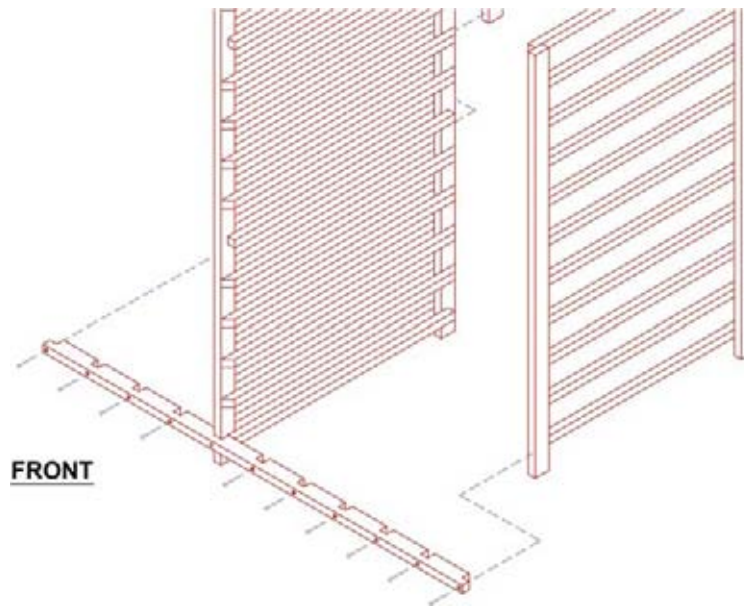

Figure 2
5. Repeat step 4 until all (4) double-sided ladders are in place on the right side of your center ladder.
6. Repeat step 4 until the (4) tall double-sided ladders are in place, ascending in size from the left side of your center ladder.
7. Set the two single-sided ladders on the floor and into the open end rabbet (or slot) locations (**Figure 2**). Make sure that the slat sides of the ladders face inward toward the other ladders. Align the spacer bar at the spacer slat location. ****Pre-drill through the existing screw holes on your spacer bar and into the ladder uprights. Secure both ladders with screws as before.**